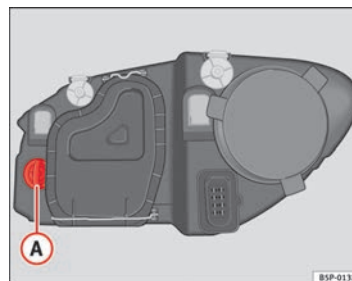

Fig. 182 Turn signal bulb
- Turn bulb holder ⇒ Fig. 182 (A) to the left and pull.